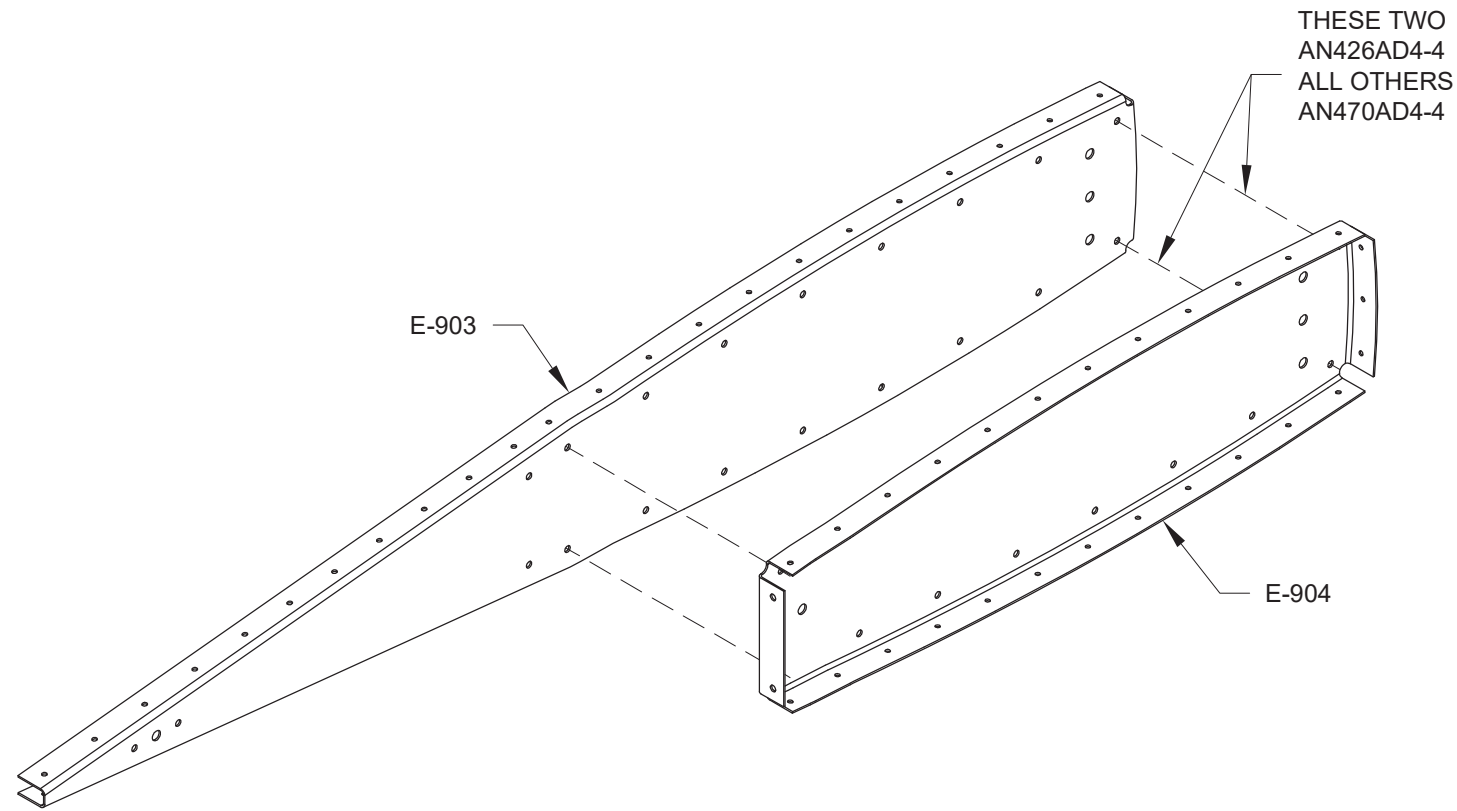

FIGURE 1: RIVETING THE TIP RIBS
Step 2: Rivet all the common 1/8" holes of the E-903 and E-904 Tip Ribs using the rivets called out in Figure 1.